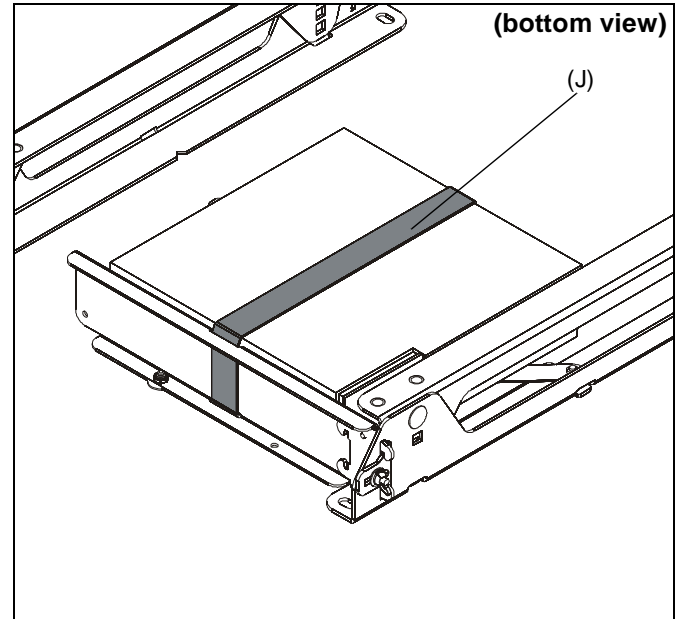

Figure 7
5. Use hook and loop strap (J) to secure CPU to shelf (C). (See Figure 7)